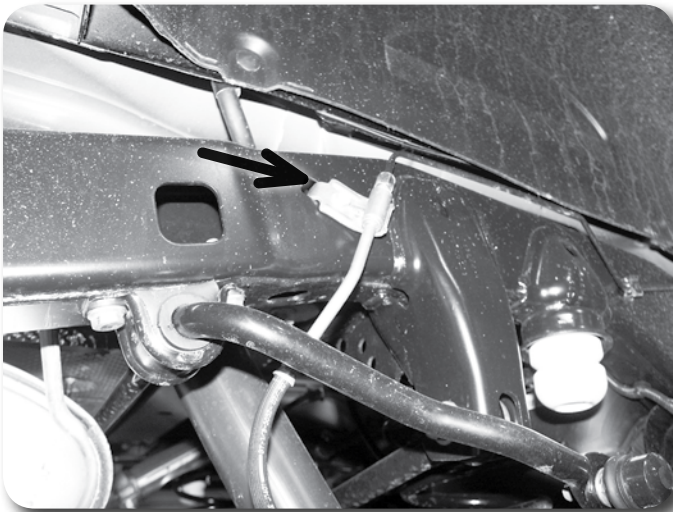

Figure 6
7. Disconnect brake line brackets from the frame, save bolts (Figure 6)